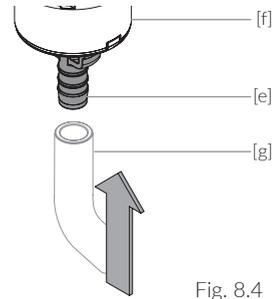

Fig. 8.4
- / Attach the hose (Fig. 8.4):